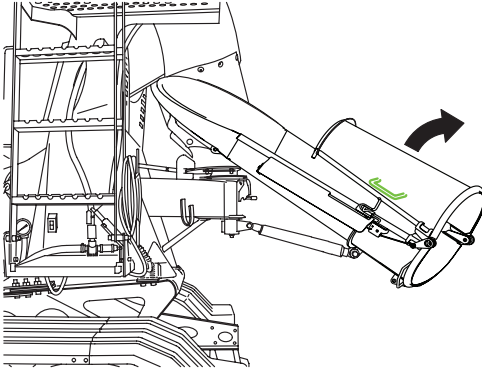

Figure 33
2. Grip the fold-over chute using the correct hand-holds (Figure 33).